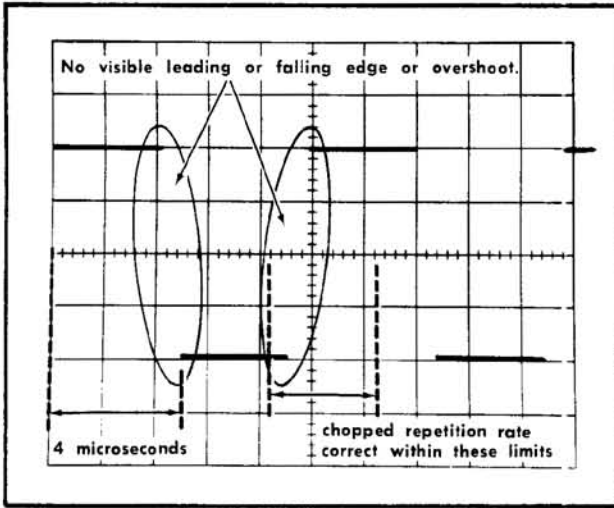

Fig. 6-52. Typical CRT display when checking chopped repetition rate and blanking. Sweep rate, two microseconds/division.
- b. CHECK—CRT display for duration of each cycle between 4.2 and 6.25 divisions (100 kilohertz, ±20%; see Fig. 6-52).
- c. CHECK—CRT display for complete blanking of switching transients between chopped segments (see Fig. 6-52).